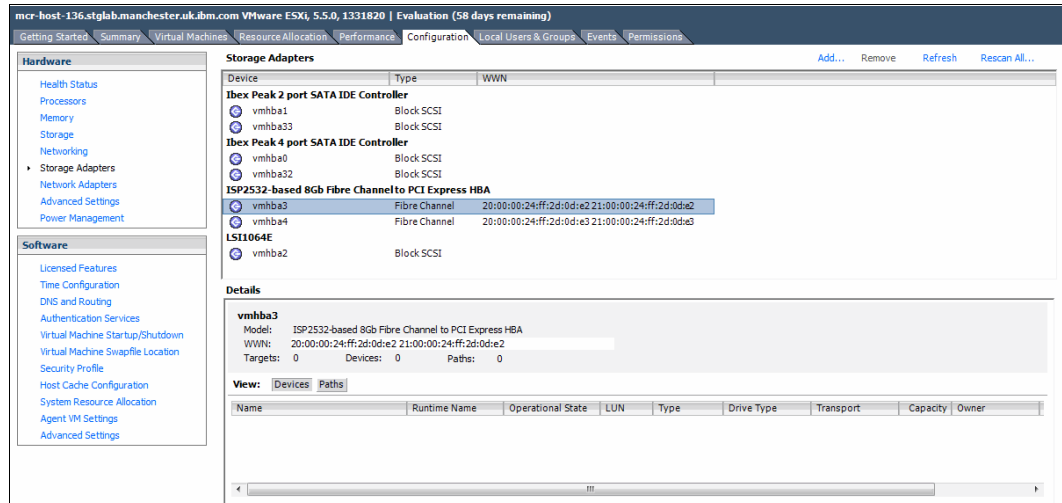

Figure 5-53 The storage adapters view in VMware vSphere Client
2. Browse to the **Configuration** tab and select **Storage Adapters**. This opens the view shown in Figure 5-53.